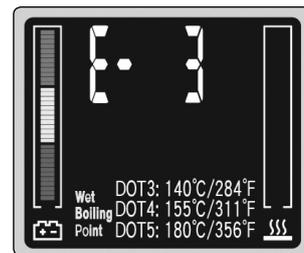

Fig.8
4.7.5.3. E-3: means either there is a problem with the heater or there is an internal fault. Contact your stockist for assistance, see fig.8.